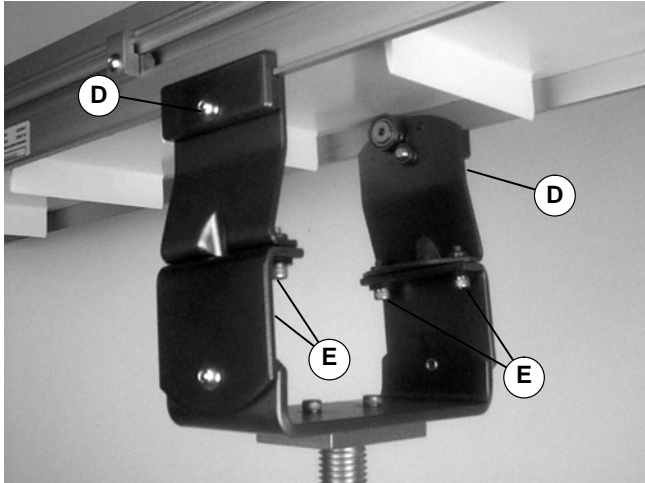

Figure 8
3. Attach clamp plates on each side of conveyor (Figure 8). Secure the 5/16 button head screws (D) with 150 in-lb (17 Nm) torque or the M8 button head screws (D) with 80 in-lb (9 Nm) torque.
4. Mount to support stand. Secure the 1/4 or M6 socket head screws (E) with 80 in-lb (9 Nm) torque. Make sure belt is free to move.